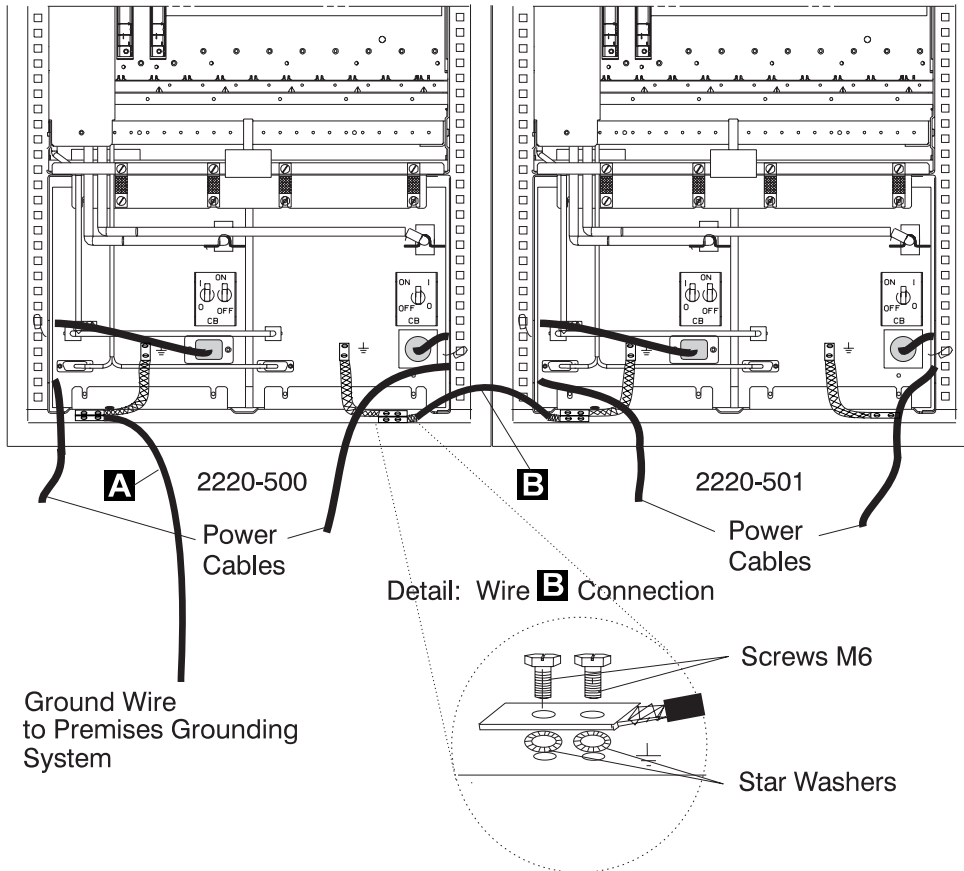

Figure 0-2. 2220 Ground Wire B Between 2220-500 and 2220-501
- The 2220-501 is connected to the 2220-500 via a ground wire **B** (see Figure 0-2 on page xx).
When a 2220-501 is installed, check the presence of ground wire **B** between the 2220-500 and the 2220-501 (see Figure 0-2).